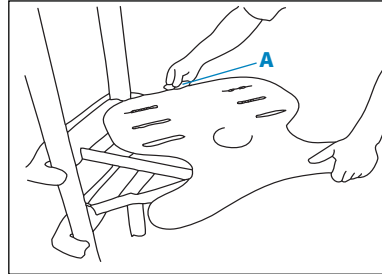

Figure 9a
The rotation of the trunk board can be set in 15° increments using the pivot latch (see Figure 9a). Press down on the pivot latch handle (A) firmly while rotating the trunk board. Release the latch and allow it to engage into the nearest position. The trunk board can be rotated 180 degrees.
The trunk board must be horizontal before using the pivoting feature (see Figure 9a).